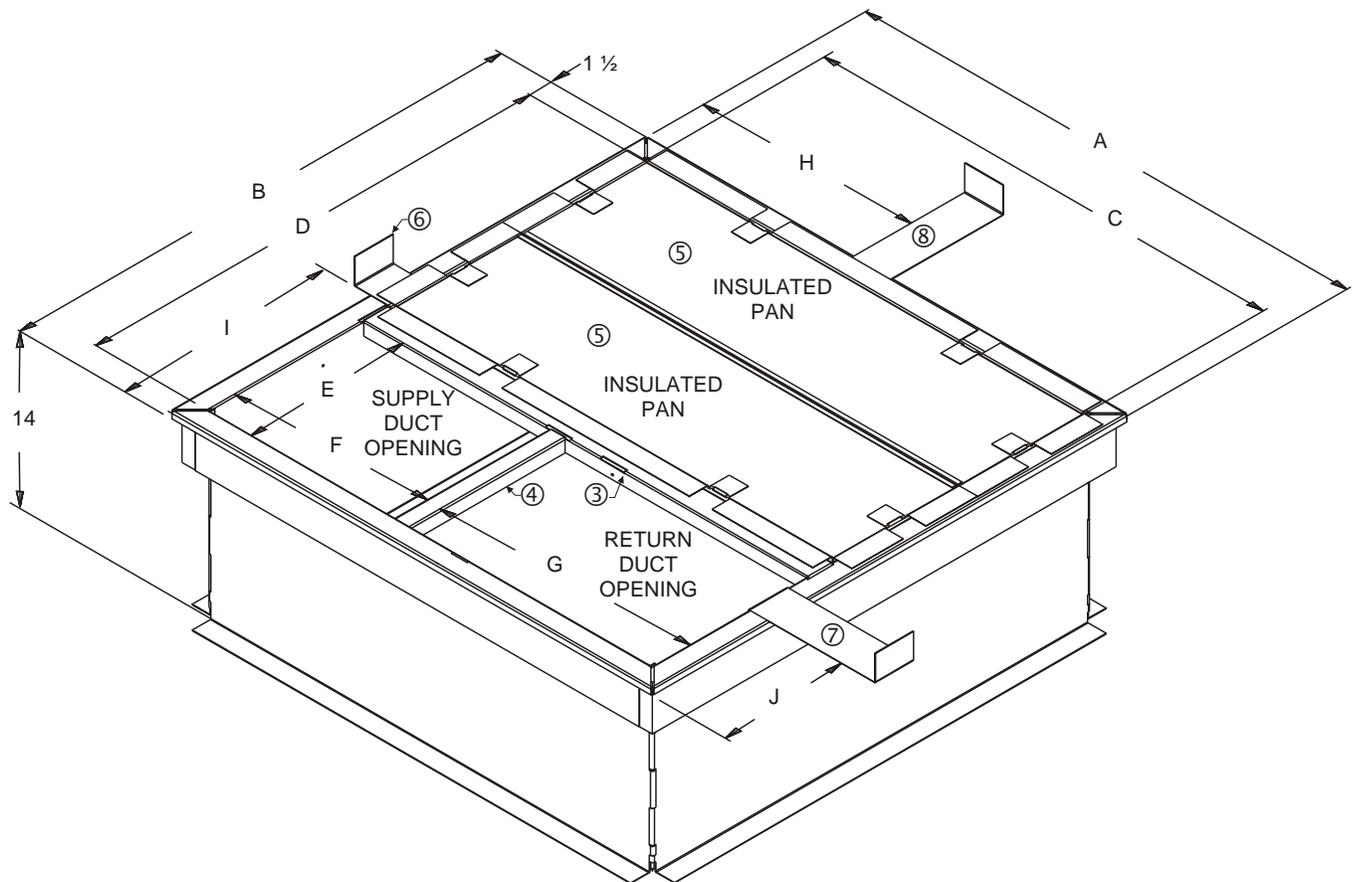

Figure 6
Place curb restraint ⑥ in location that is shown in Figure 6 and secure with screws provided. Do the same for the other curb restraints ⑦ and ⑧.
Install vertical brace ③ on the curb as shown with the roof opening over the desired duct location. See Figure 6.
Place the horizontal brace ④ on the curb and the duct support ⑤ making sure that it is in the right location as shown in Figure 6. Also See "DETAILS #1 and #2".
Place insulated pans ⑤ in curb as shown in Figure 6.